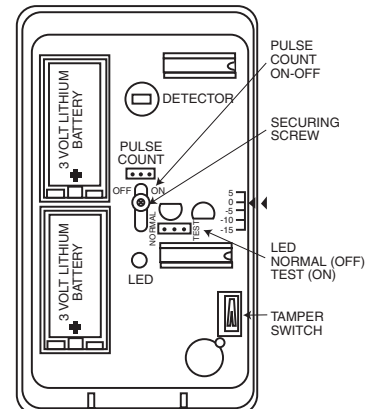

Figure 5. PC Board
2. **Observing correct polarity**, install the two Lithium batteries (supplied) into the battery holders, as shown in Figure 5. Make sure the batteries are firmly seated.
To program the detector, place the LED jumper in the TEST position (see Figure 5), the Pulse Count jumper in the OFF position, batteries installed and cover on. Temporarily cover the lens (a cloth will do) to prevent any activation by the detector.
2. Temporarily loosen (do not remove) the screw holding the PC board in the detector base (see Figure 5 for location of this screw).
5. Before fully tightening the PC board holding the screw, make sure the board is positioned so that the arrow is in line with the appropriate setting on the graduated scale on the right-hand side of the PC board (see Table 1 and Figure 5).
The protection pattern provided by the lens in use can be raised or lowered by re-positioning the PC board in the detector. A graduated scale to the right of the board (see Figure 5) indicates the approximate number of degrees by which the pattern can be raised (max. +5°) or lowered (max. -15°). The detector is normally shipped with the board set to the 0° position. To make this adjustment, remove the cover on the detector and loosen the screw holding the PC board (the screw is located at the approximate center of the board). Slide the board upward or downward by the number of degrees required, then tighten the holding screw again. After any adjustment, you must conduct a Walk Test to ensure proper coverage of the area to be protected, as indicated under *TEST PROCEDURES*.
Each detector includes pulse count circuitry that is designed to provide stability in adverse environments to minimize false alarms. Pulse count is selected by positioning a jumper across the ON pulse count terminals (shown in Figure 5). When set for pulse count ON, the detector will signal an alarm within 2 or 3 steps, because the processing logic requires more complex motion than just a momentary event. When the detector verifies an intrusion, the built-in transmitter will send an alarm message to the control/receiver.
The detector is shipped with the LED disabled (LED jumper in the "NORMAL" position). The LED may be enabled (for the Walk Test) by positioning the LED jumper in the "TEST" position (see Figure 5).
† See Figure 5 for location of adjustment scale on PC board (refer also to *VERTICAL PATTERN ADJUSTMENT*).